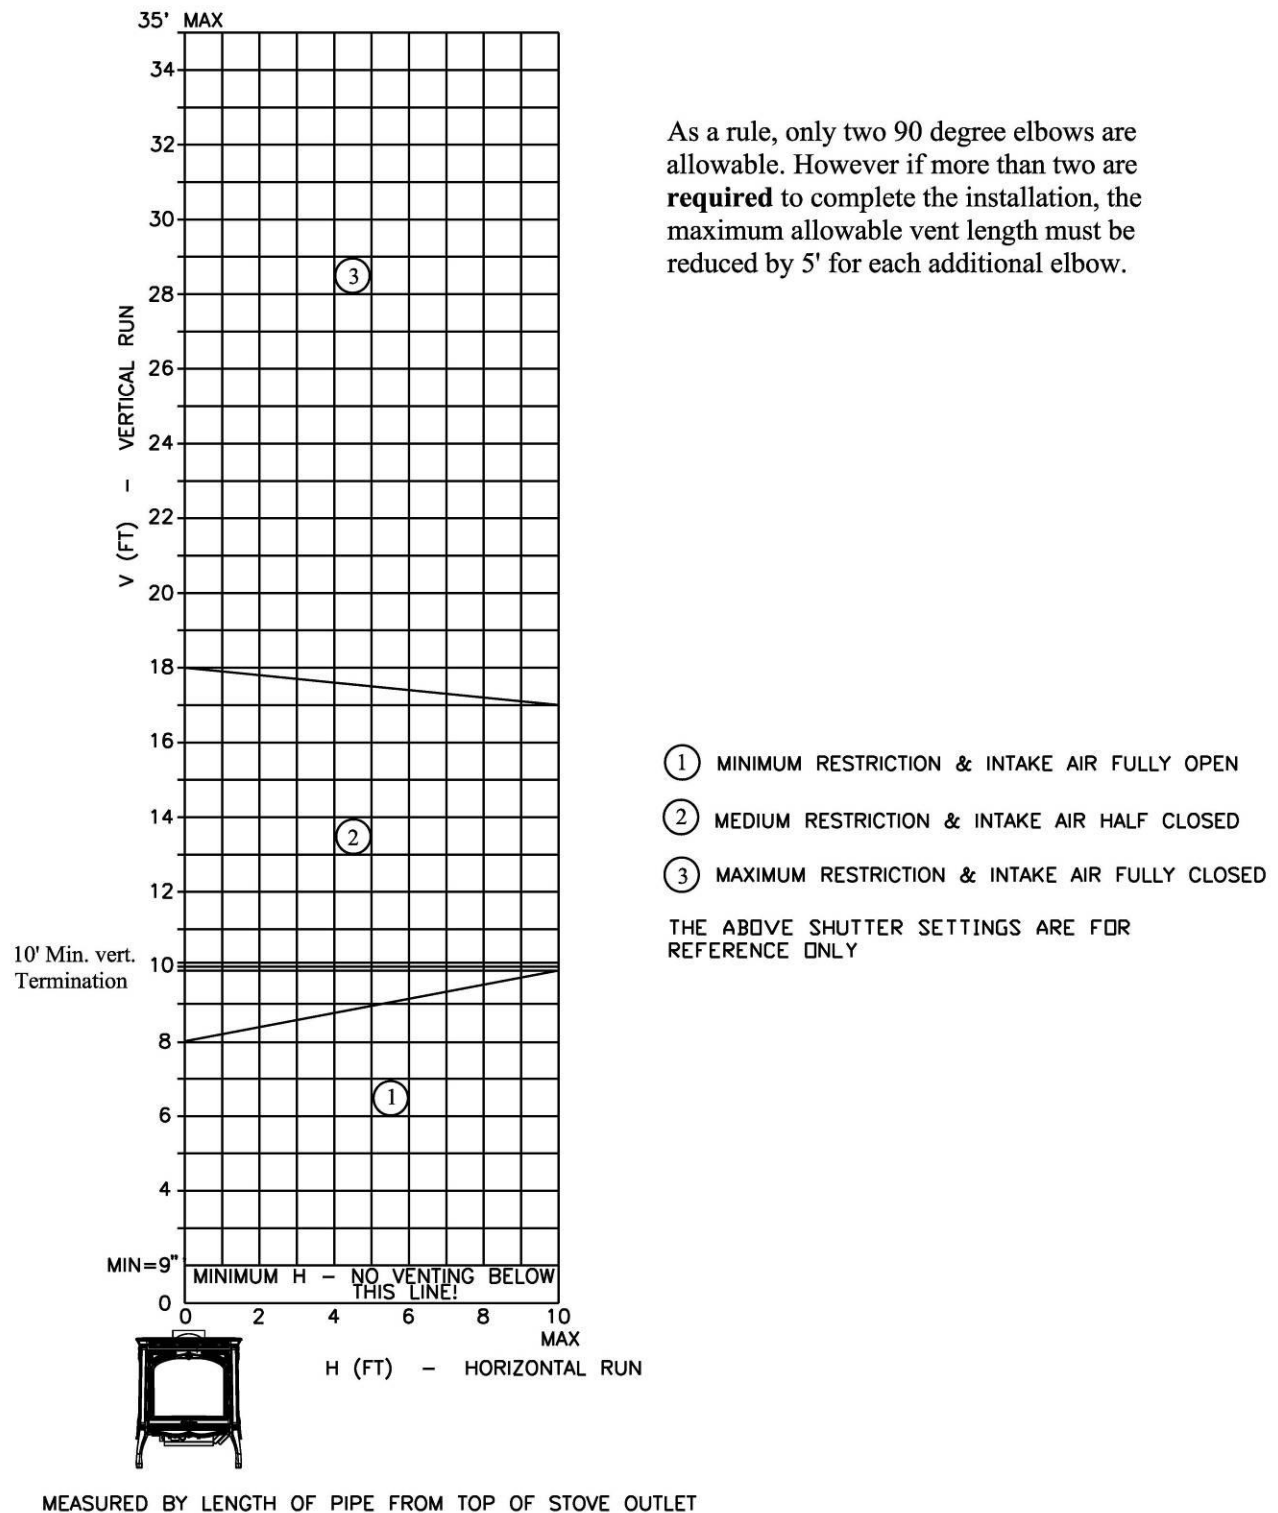

Figure 13 - Venting Termination Diagram
- 🔥 The termination must fall within the chart in Figure 13.
- 🔥 The termination must fall within the chart shown in Figure 13.